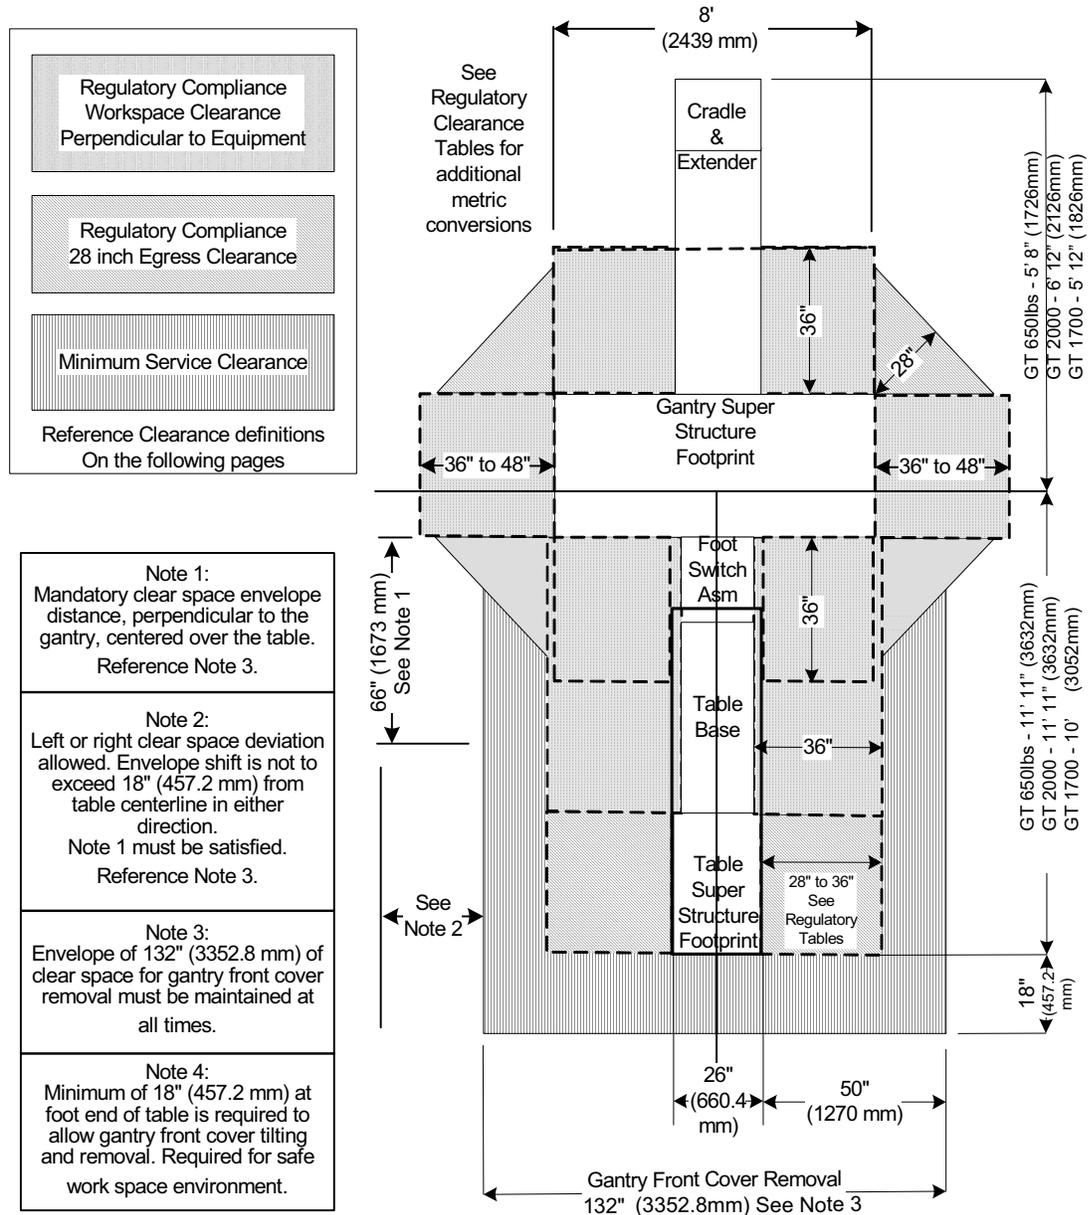
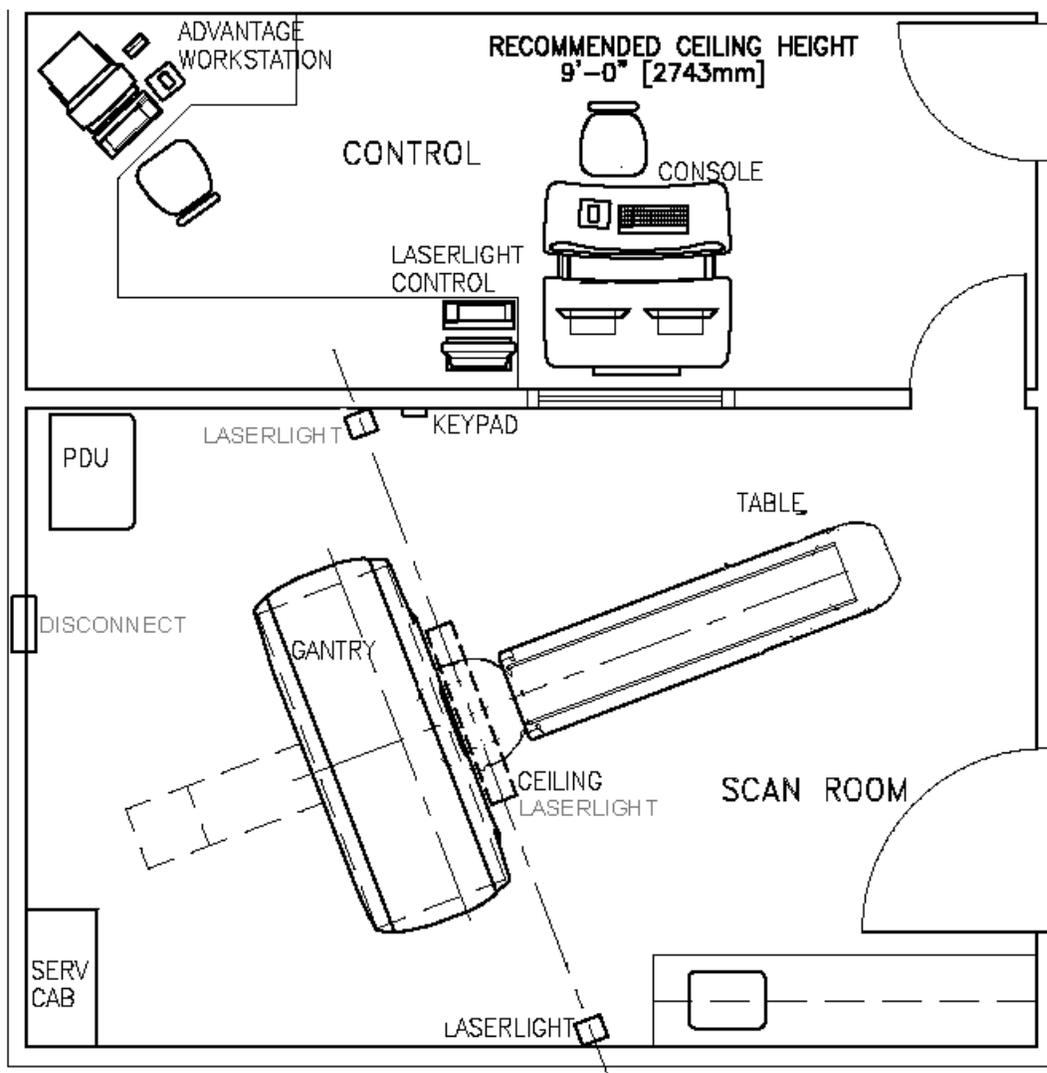

Figure 4-4 Minimum Service Clearance
Figure 4-6 Typical Room Layout with CT Simulation Laser Alignment System
- Gantry front cover removal requires the use of the Tilting Cover Dollies. These dollies allow the Service Engineer to separate the cover from the gantry, tilt the cover 90 degrees, roll the cover to the foot end of the table, and then tilt the cover an additional 90 degrees, such that the front cover is now upside down relative to the normal system-mounted condition. Figure 4-4 illustrates the minimum clear space required to achieve this operation of 3,200.4 mm (126 in.). The gantry front cover must be removed to a position that satisfies the minimum regulatory clearances.
- The gantry rear cover with service dollies installed, requires a width of 2660 mm (104 ft, 7 in.) and a depth of 596 mm (23 ft, 5 in.) of clearance for removal as shown in Section 6.0, Figure 4-6. Sufficient space must be calculated to move the cover either straight back or to one side of the table to satisfy the minimum service clearance shown in Figure 4-4. This means the rear cover cannot violate the workspace on the rear, or on either side of the gantry.